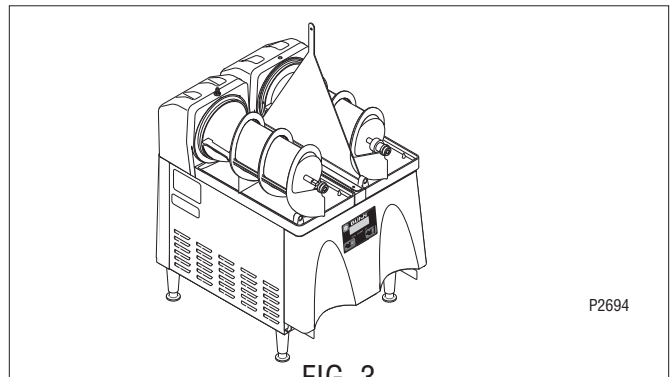

FIG. 3
5. Place the Hopper Bracket (1) on top of the Hopper/Drip Tray Trim. See Fig. 3.